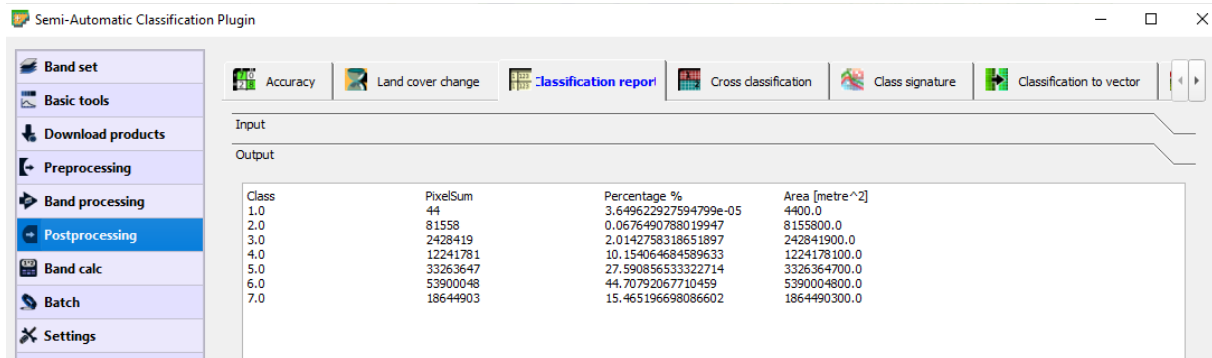

Figure 11. Classification report.
- 3) Open SCP Dock, if necessary, by clicking on the plus button (Figure 11).
Once you classify the image, you should check statistical reports and try to quantify the quality of your results. You can generate a basic classification report for descriptive statistics about your pixel classification (*SCP – Postprocessing – Classification report– Output*), see Figure 11. Here you can read information about the total number of pixels assigned to each of the classes, its percentage ratio and area.